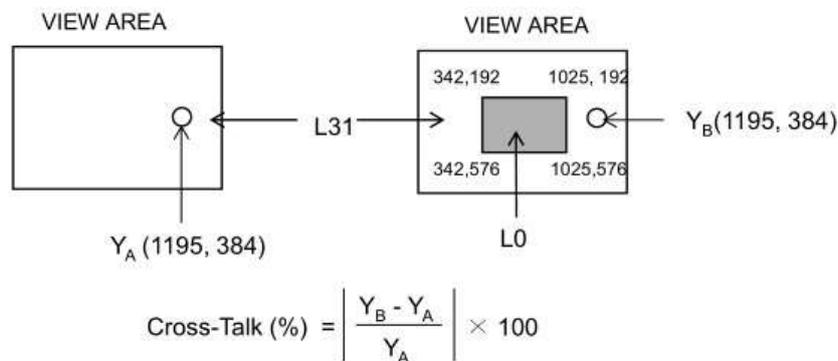

Figure 4. Response Time Testing
6. The electro-optical response time measurements shall be made as FIGURE 4 by switching the "data" input signal ON and OFF. The times needed for the luminance to change from 10% to 90% is Tr, and 90% to 10% is Td.
7. Cross-Talk of one area of the LCD surface by another shall be measured by comparing the luminance (YA) of a 25mm diameter area, with all display pixels set to a gray level, to the luminance (YB) of that same area when any adjacent area is driven dark
The electro-optical response time measurements shall be made as shown in FIGURE 4 by switching the “data” input signal ON and OFF. The times needed for the luminance to change from 10% to 90% is Td and 90% to 10% is Tr.